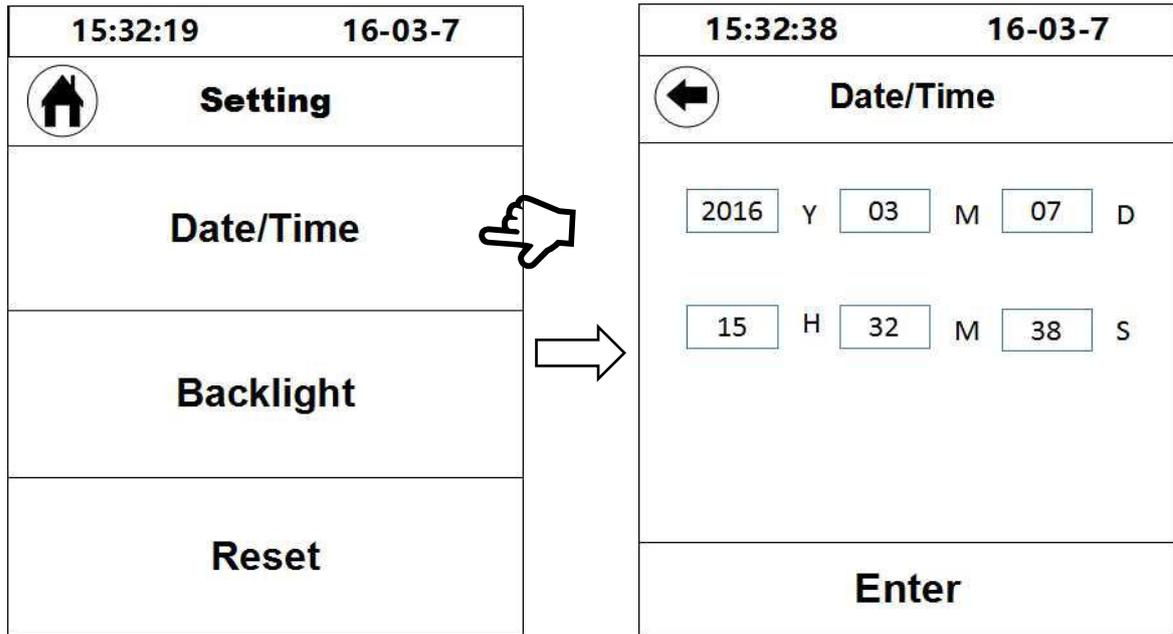

Fig. 29
4.1 Time and date setting: click “Time/date setting” to adjust the values of date and time (Fig. 29).